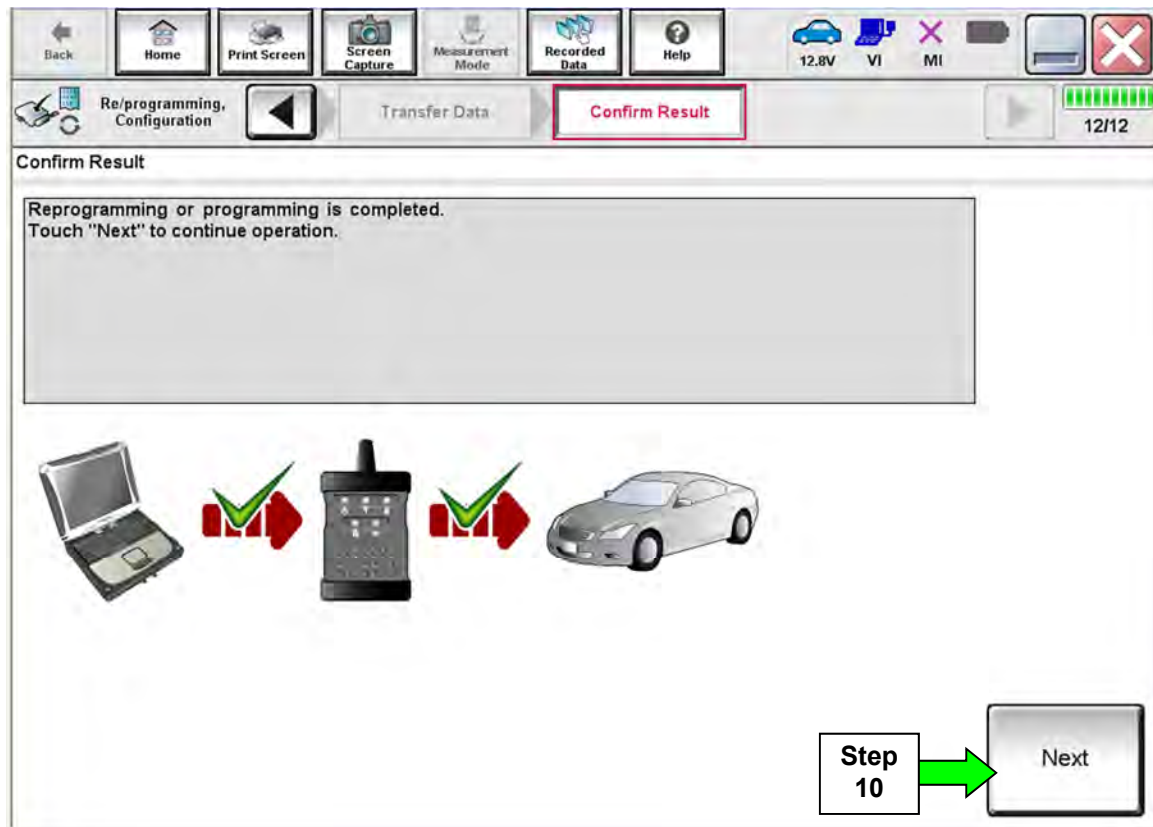

Figure 5
8. When the screen in Figure 5 displays, reprogramming is complete.
**NOTE:** If the screen in Figure 5 does not display (indicating that reprogramming did not complete), refer to ECM recovery on the next page.